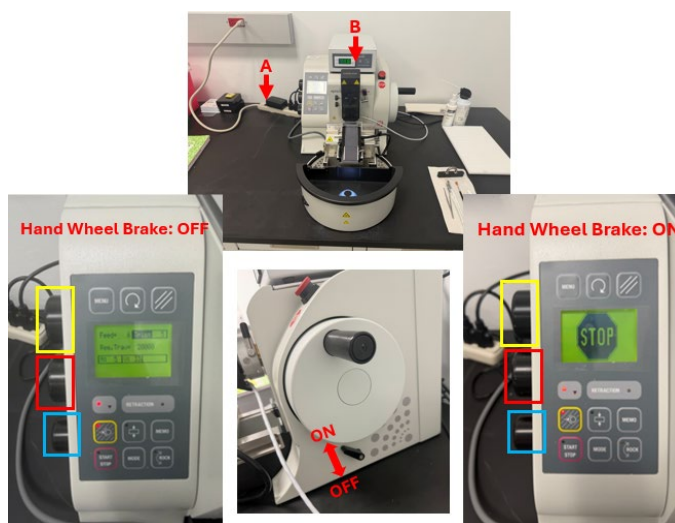

Figure 4.1: Microtome Setup with extension cord switch (A) and water bath switch (B). Screen when rotary handbrake ON (Right Image) versus OFF (Left Image)
- Turn on the power strip located behind the microtome (**Figure 4.1-A**).
If the water bath does not turn on, press the power button located on top of the microtome (**Figure 4.1-B**).
Toggle between trimming and sectioning (also known as feed) by pressing the knob on the upper left of the screen (**Figure 4.1-Yellow Box**) Set thickness (μm) by turning the same knob.
- Set to feed section thickness (**Figure 4.1-Yellow Box**).